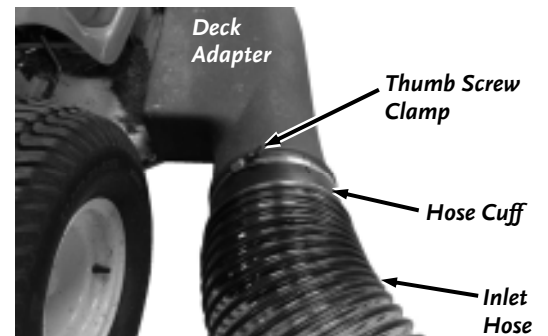

Figure 77
4. Turn the Thumb Screw Clamp to disconnect the Hose from the Deck Adapter (**Figure 77**).